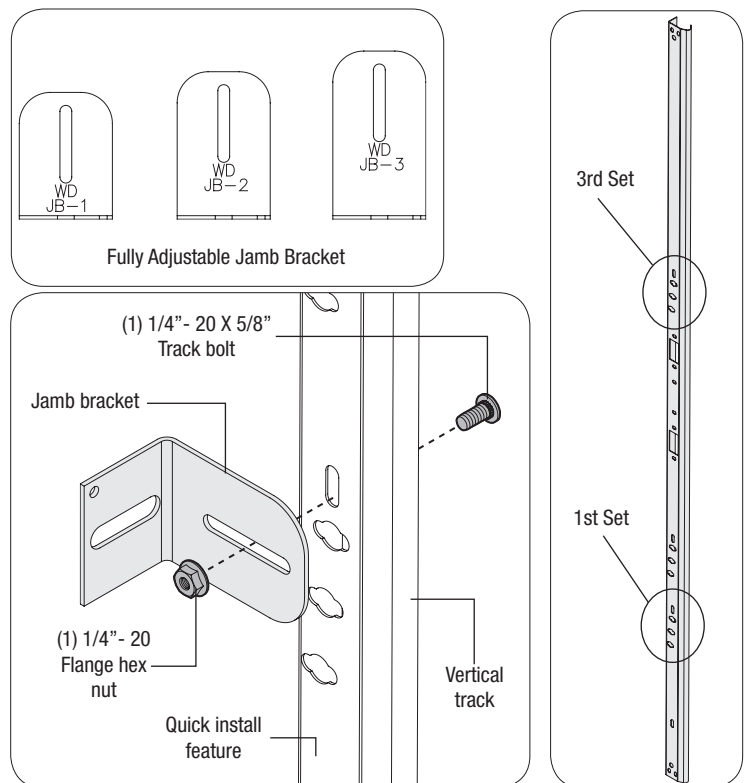

FIG. 2.1
The bottom jamb bracket is always the shortest bracket included with your door. To attach the bottom jamb bracket, locate the first set of quick install features of the vertical track. Align the slot in the jamb bracket with the slot above the quick install features in the vertical track. The long side of the bracket is placed against the track and with the tabs away from the track. Fasten the jamb bracket finger tight, using (1) 1/4" - 20 x 5/8" track bolt and (1) 1/4" - 20 flange hex nut. To attach the top jamb bracket, locate the third set of quick install features of the vertical track. Align the slot in the jamb bracket with the slot above the quick install features in the vertical track. The long side of the bracket is placed against the track. Fasten the jamb bracket finger tight, using (1) 1/4" - 20 track bolt and (1) 1/4" - 20 flange hex nut, as shown in FIG. 2.1.